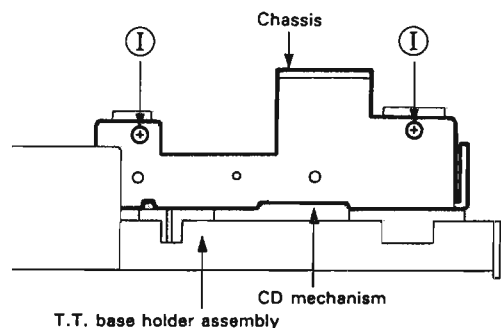

Fig. 11
3. From the CD changer mechanism assembly, remove the 2 screws \textcircled{I} securing the CD mechanism. (Refer to Fig.11)